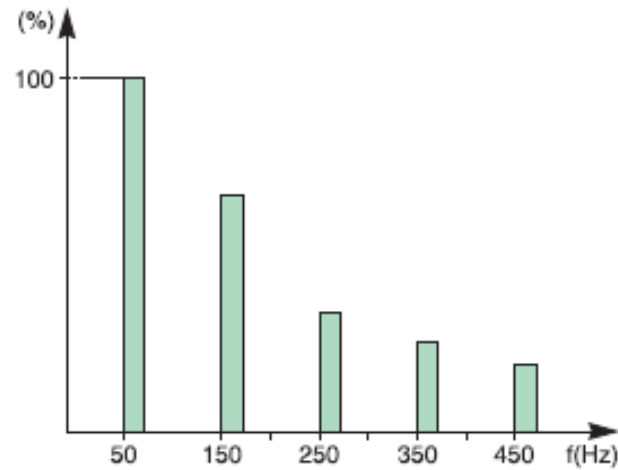

*Figure 5.5 - Example of a current containing harmonics and expansion of the overall current into its harmonic orders 1 (fundamental), 3, 5, 7 and 9.*
➤ Figure 5.5 shows an example of a current wave affected by harmonic distortion.
- Figure 5.6 shows the frequency spectrum of the signal presented in figure 5.5.